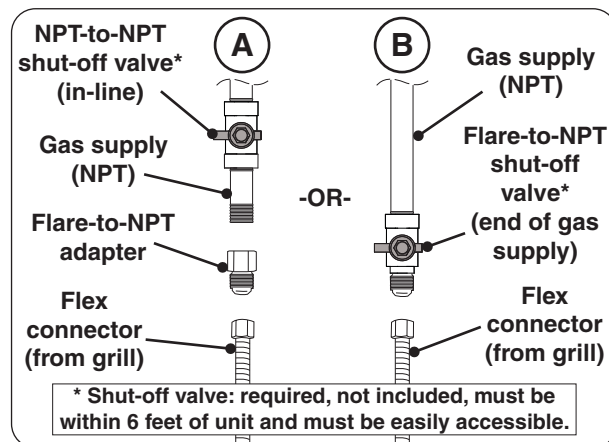

Fig. 18-2 Connecting to a gas line
- Install the supplied flare-to-NPT adapter to the gas supply (NPT) using a pipe joint compound resistant to all gasses (see Fig. 18-2, A). Tighten securely.
- Connect the flex connector to the adapter (see Fig. 18-2, A). Tighten securely.
- Connect the flex connector to the shut-off valve (flare) (see Fig. 18-2, B). Tighten securely.